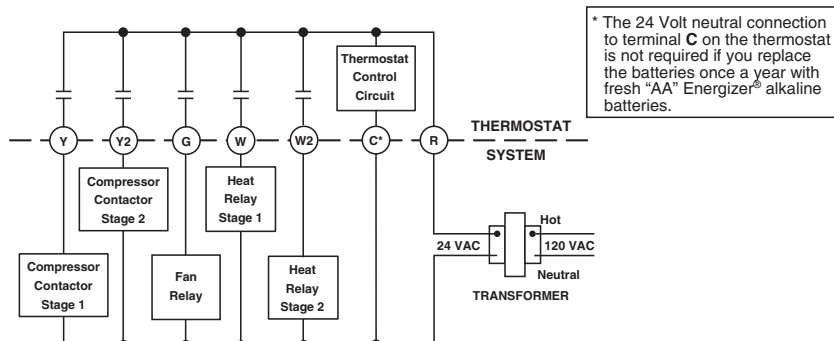

Figure 2. Typical wiring diagram for single transformer systems
2. Connect wires beneath terminal screws on base using appropriate wiring schematic (see figs. 2 through 4).